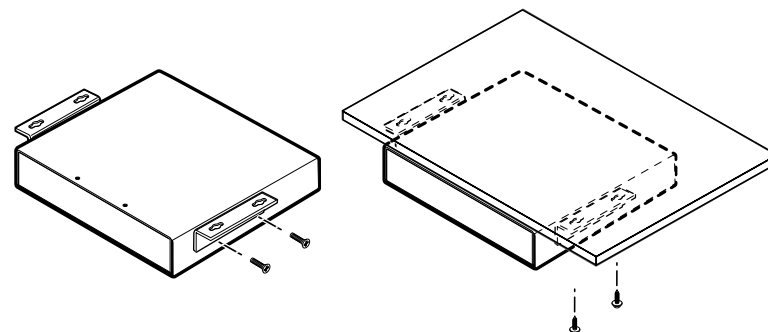

Figure 2-3 — Attaching the furniture mounting brackets to an MTP SW6
2. Attach the furniture mounting brackets to the switcher with the four machine screws supplied with the mounting kit (figure 2-3).